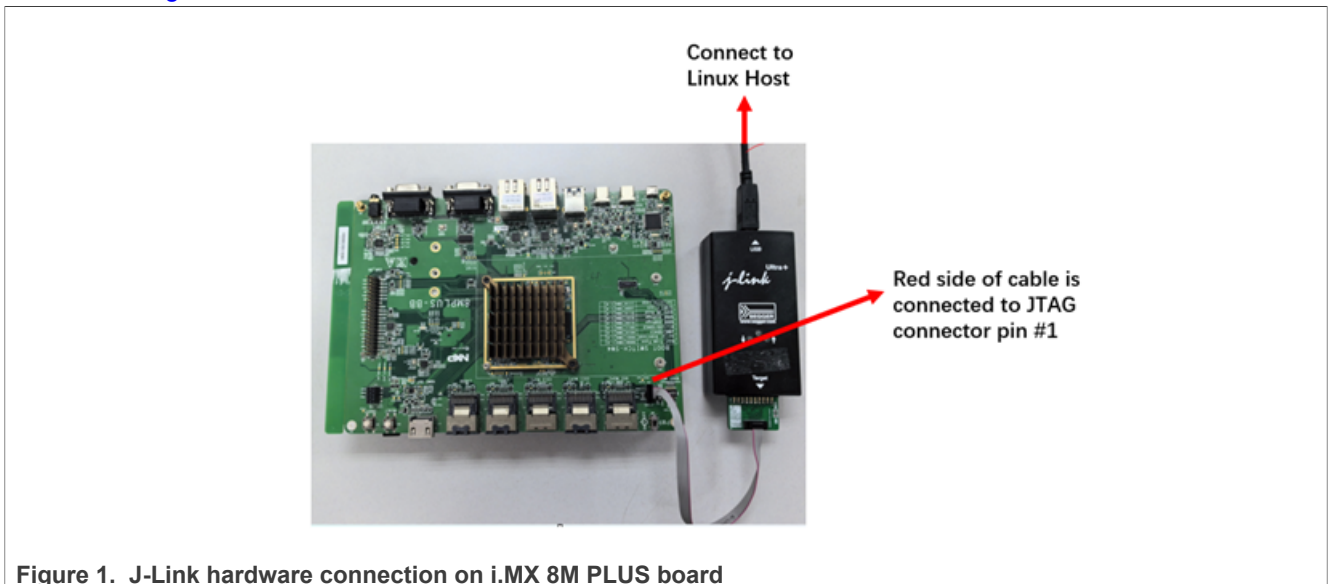

Figure 1. J-Link hardware connection on i.MX 8M PLUS board
5. (Optional) If J-Link is used, an extra step is to connect the J-Link probe to a local JTAG port. For details, refer to Figure 1